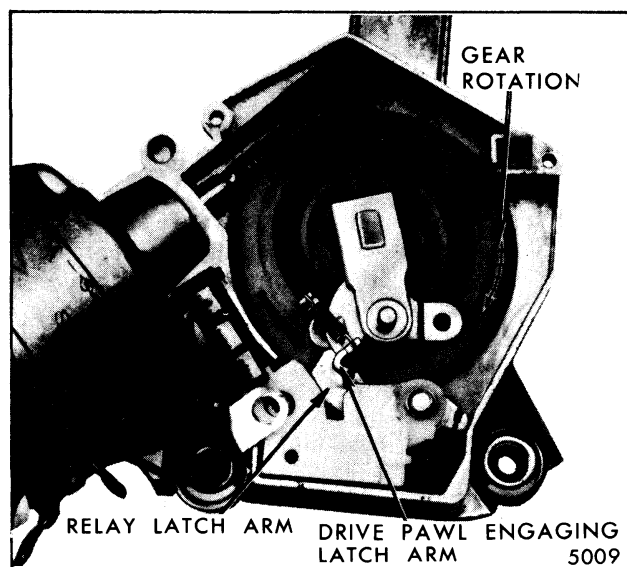

Fig. 2-56-Gear Drive Pawl Engaged
- d. Further rotation of the wiper gear causes the gear drive pawl to engage the relay latch arm (Fig. 2-56). This action unlocks the output shaft from the gear. The output shaft extends